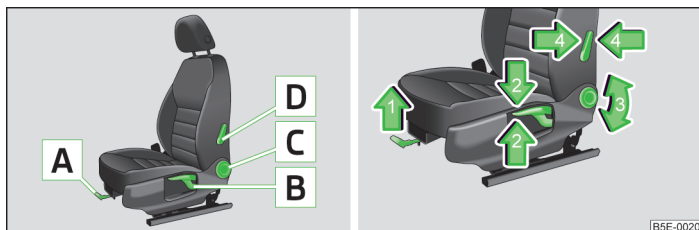

Fig. 46 Controls for manual seat adjustment
- Pull the lever » Fig. 46 in the direction of the arrow 1 and push the seat in the required direction.
- Again push/pull the lever » Fig. 46 in the direction of one of the arrows 2.
- Relieve any pressure from the seat backrest (do not lean on it) and turn the handwheel » Fig. 46 in the direction of the arrow 3.
- Push the lever » Fig. 46 in the direction of one of the arrows 4